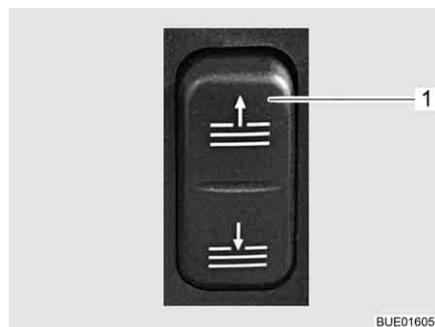

Fig. 34 Sun visor switch
- Press the upper or lower half of the switch (Fig. 34,1). The sun visor moves upwards or downwards whilst the button is pressed.